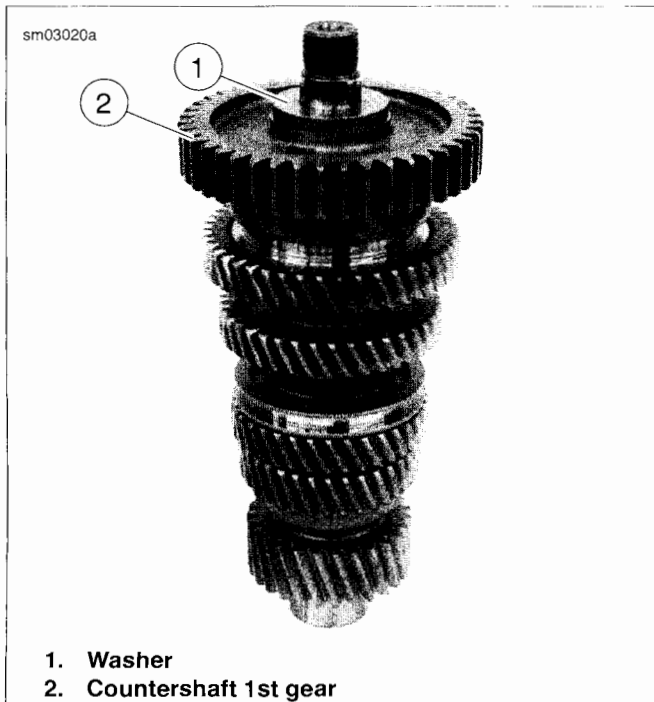

Figure 6-17. Countershaft 1st Gear
3. See Figure 6-17. Remove washer (1), countershaft 1st gear (2) and bearing.
- See Figure 6-17. Install **new** needle bearing, countershaft 1st gear (2) and washer (1).